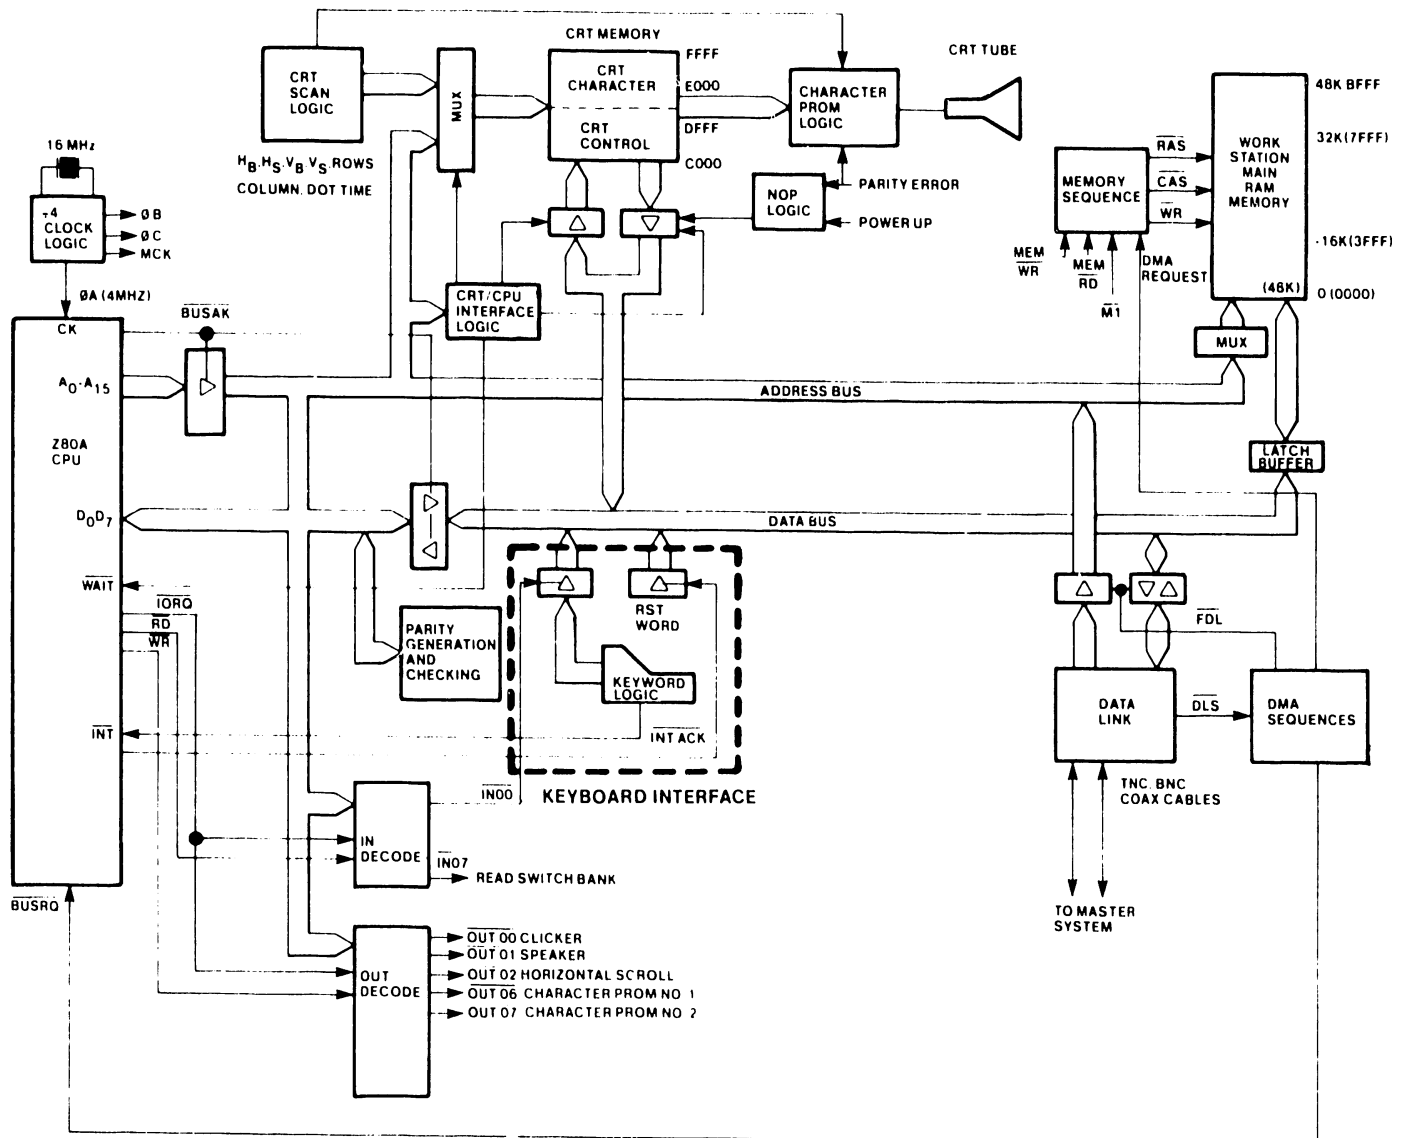

Figure 2-5 I/O Decoding
2.2.4.8 IN-OUT Decoders (Figure 2-5)